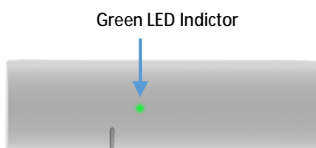

Figure 2
3. It will blink one time every second while scanning the network (Figure 2).